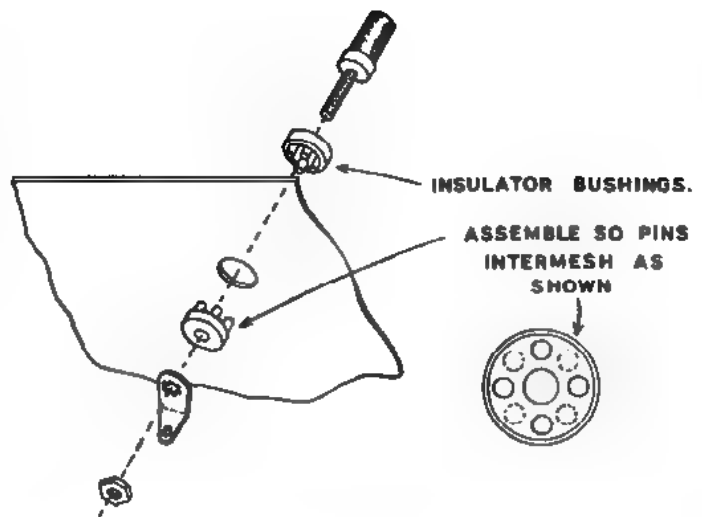

Figure 6
- ( ) Install the four binding posts on the front panel as shown using binding post base, insulators, solder lugs and 6-32 nuts. See Figure 6 and Pictorial 1.